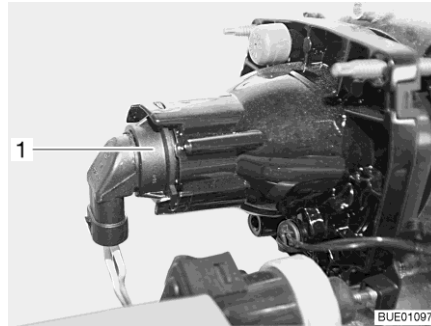

Fig. 213 Low beam/main beam/parking light
- Put your hand behind the lamp holder (Fig. 213,1).